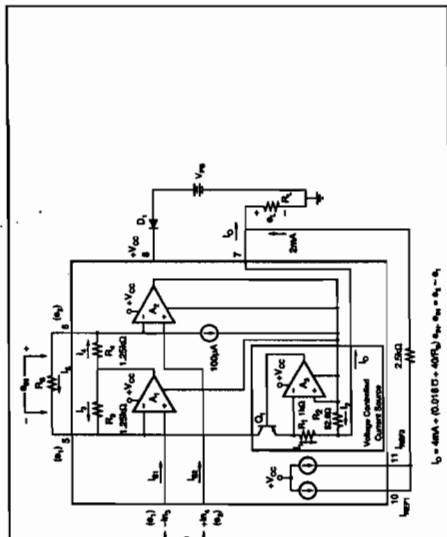

FIGURE 1. Simplified Schematic of the XTR101.
A simplified schematic of the XTR101 is shown in Figure 1. Basically the amplifiers,  $A_1$  and  $A_2$ , act as a single power supply instrumentation amplifier controlling a current source,  $A_1$  and  $A_2$ . Operation is determined by an internal feedback loop,  $e_1$ , applied to pin 3 will also appear at pin 5 and similarly  $e_2$  will appear at pin 6. Therefore the current in  $R_b$ , the span setting resistor, will be  $I_b = (e_1 - e_2)/R_b = e_1/R_b$ . This current combines with the current,  $I_1$ , to form  $I_2$ . The circuit is configured such that  $I_2$  is 19 times  $I_1$ . From this point the derivation of the transfer function is straightforward but lengthy. The result is shown in Figure 1.
The basic connection of the XTR101 is shown in Figure 1. A difference voltage applied between input pins 3 and 4 will cause a current of 4-20mA to circulate in the two-wire output loop (through  $R_b$ ,  $V_{CC}$ , and D). For applications requiring moderate accuracy, the XTR101 operates very cost-effectively with just its internal drive transistor. For more demanding applications (high accuracy in high gain) an external NPN transistor can be added in parallel with the internal one. This keeps the heat out of the XTR101 package and minimizes thermal feedback to the input stage. Also in
7. It is recommended that a reverse polarity protection diode (D) in Figure 1 be used. This will prevent damage to the XTR101 caused by a momentary (e.g., transient) or long term application of the wrong polarity of voltage between pins 7 and 8.